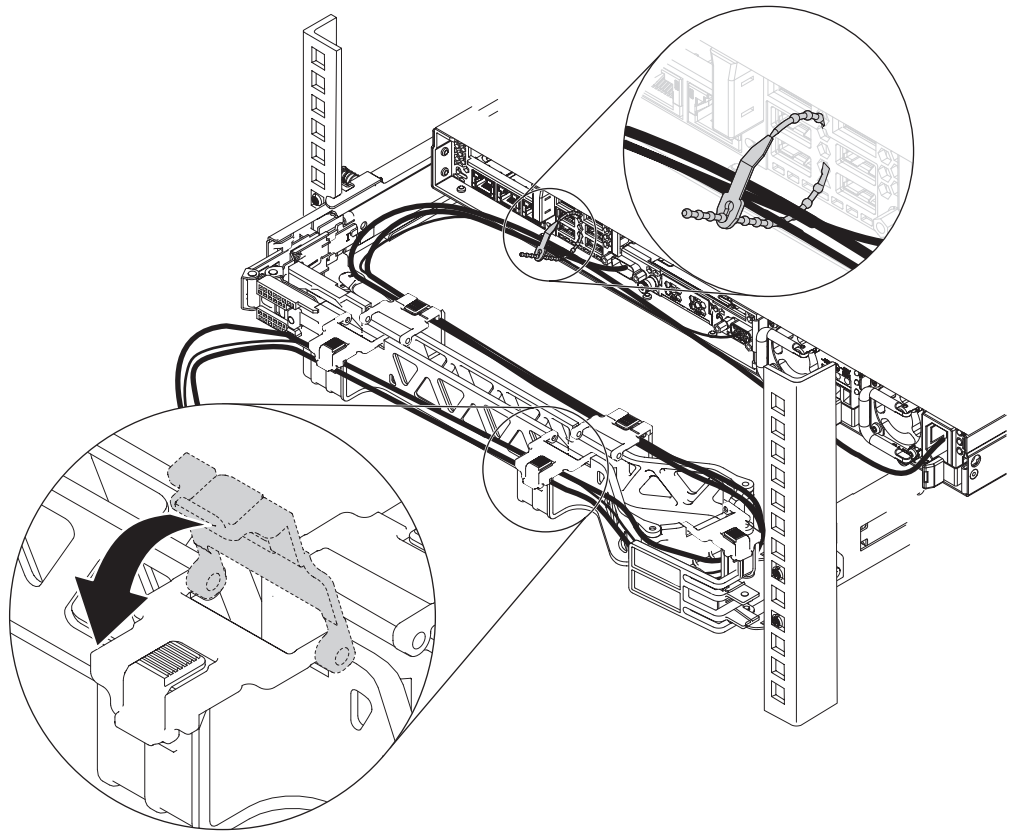

Figure 38. Connecting and routing the cables
8. Connect and route the cables as shown in Figure 38 on page 48.